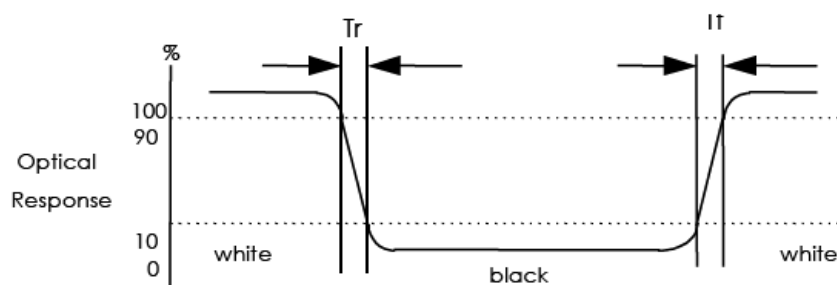

FIG. 2 Measuring method for Contrast ratio, surface luminance, Luminance uniformity, CIE (x, y) chromaticity
Note 1. Contrast Ratio(CR) is defined mathematically as For more information see FIG 2.
Note 2. Surface luminance is the LCD surface from the surface with all pixels displaying white. For more information see FIG 2.
Note 3. The uniformity in surface luminance ,  $\delta$  WHITE is determined by measuring luminance at each test position 1 through 5, and then dividing the maximum luminance of 5 points luminance by minimum luminance of 5 points luminance. For more information see FIG 2.